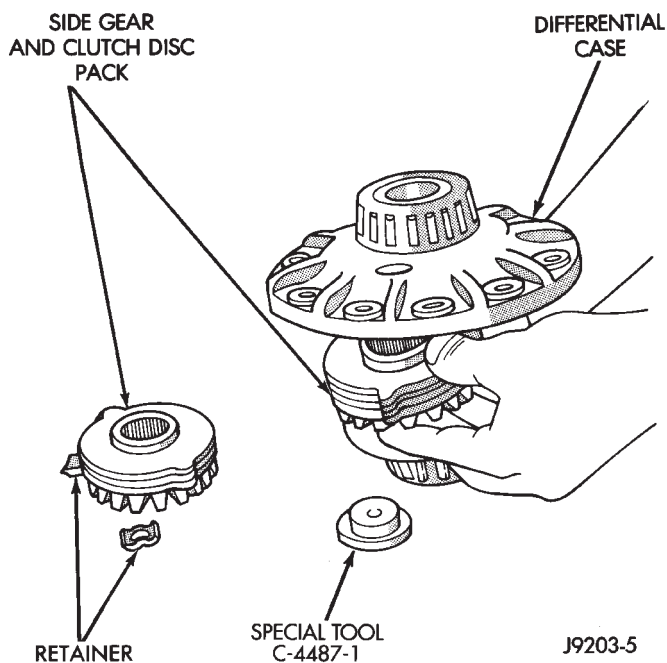

Fig. 50 Side Gear & Clutch Disc Removal
(13) Remove top side gear and clutch pack. Keep plates in correct order during removal (Fig. 50).